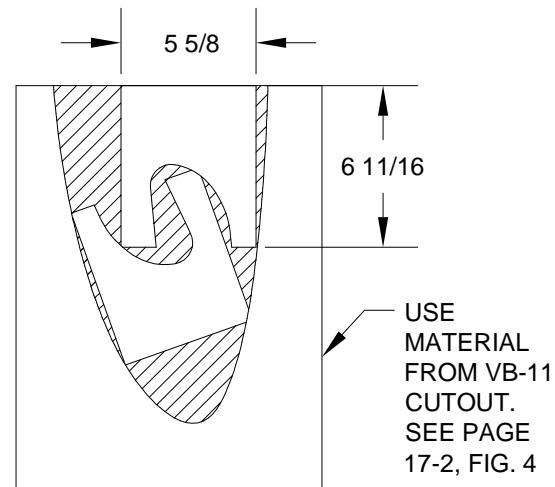
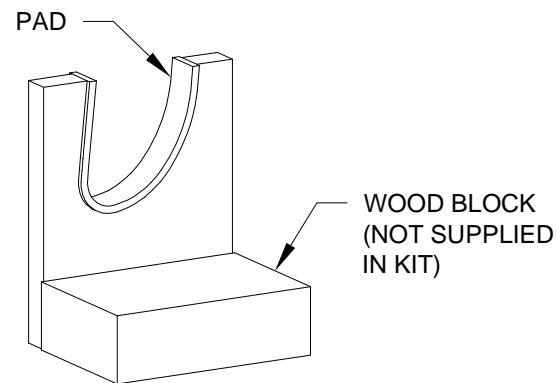

FIGURE 1: CRADLE MATERIAL
FIGURE 2: CRADLE
Step 1: The construction of the flap requires a flat work surface and three cradles (three per flap, six total) to hold the flap upright when riveting. Make some of them from the same material supplied for the wing leading edge and tank cradles as shown in Figure 1. Using an FL-1004 Nose Rib as a template, cut out the cradles. As shown in Figure 2, cut them slightly oversize to allow for padding, such as duct tape, to prevent scratching the skins.